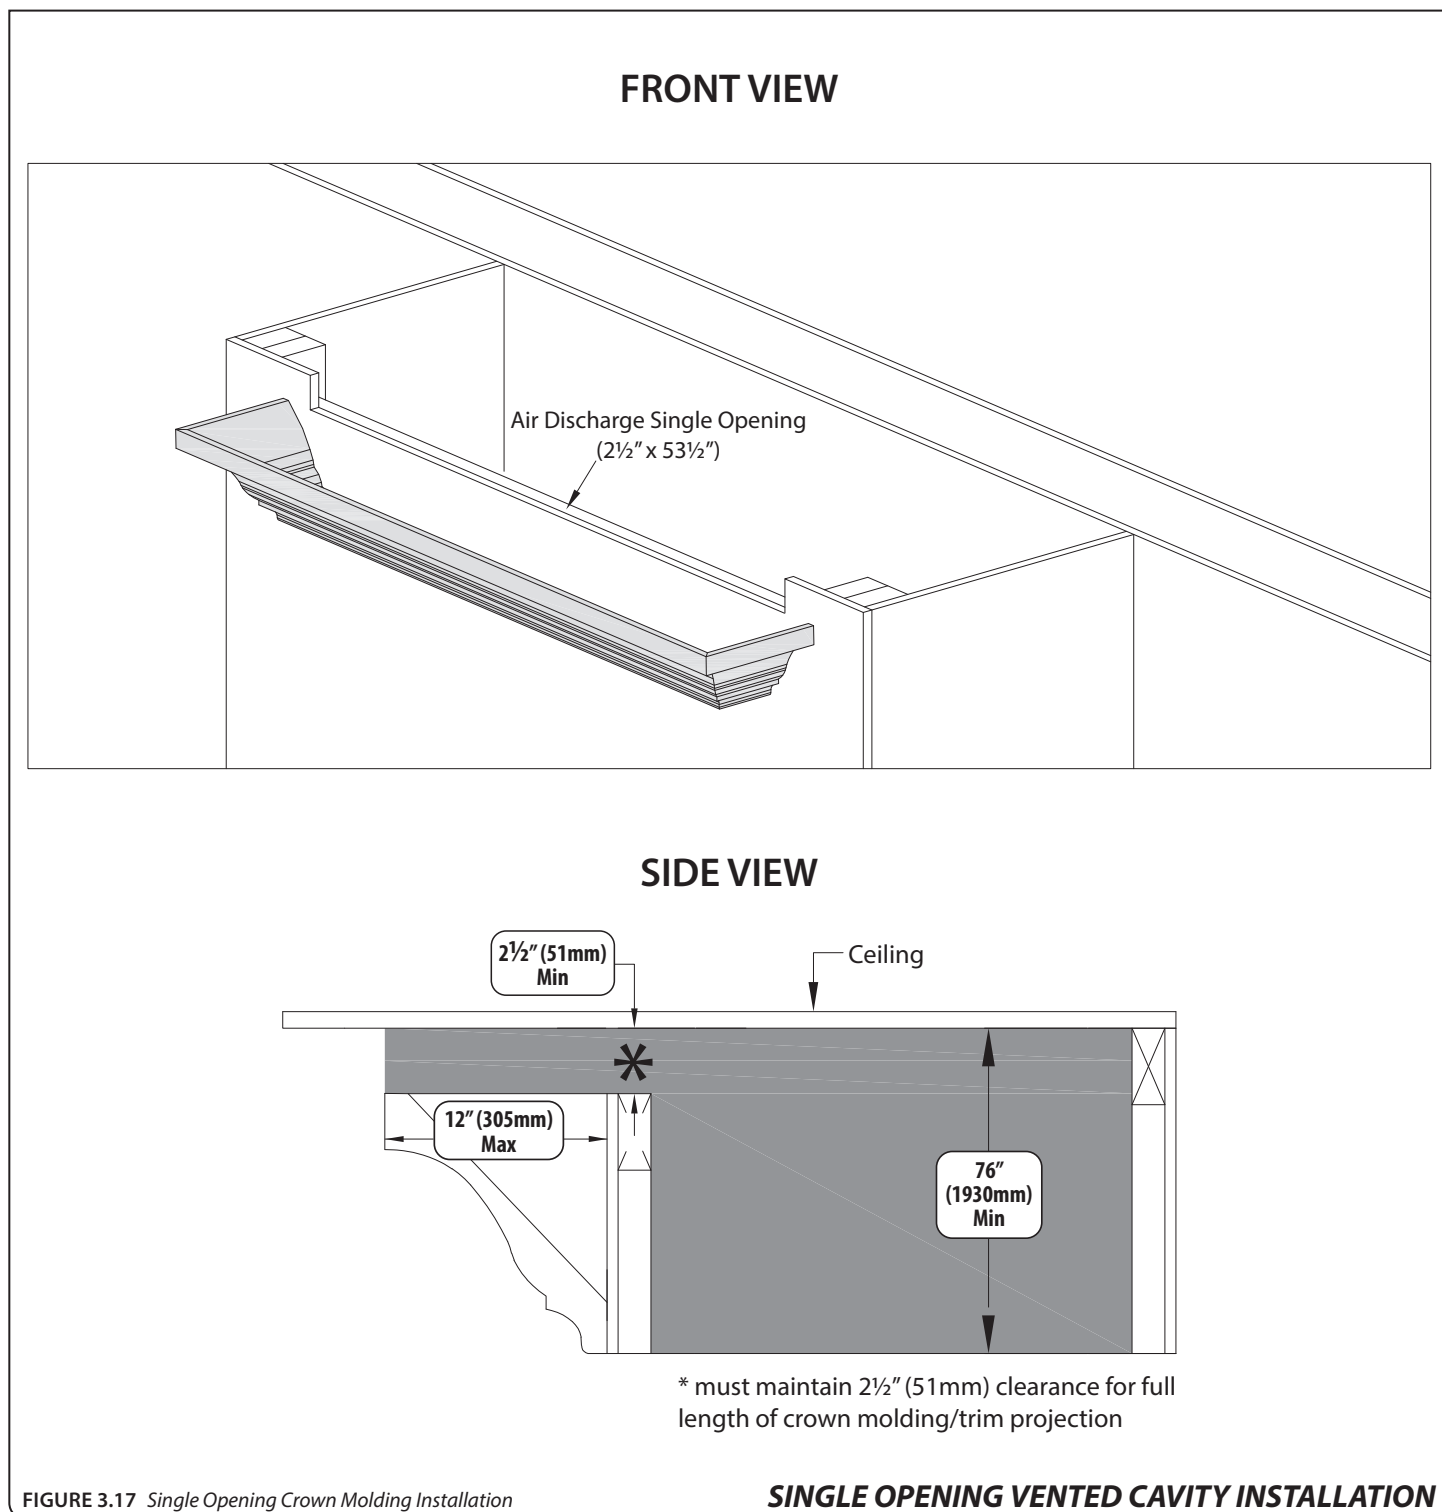

FIGURE 3.17 *Single Opening Crown Molding Installation*
- **FIGURE 3.17** shows the installation of crown molding or similar trim work that goes up to the edge of the air discharge opening. 12" (305mm) is the maximum length of the molding or trim projection and you must maintain 2-1/2" (51 mm) clearance for the full length of crown molding/trim projection. This molding or trim cannot decrease the minimum opening requirement.